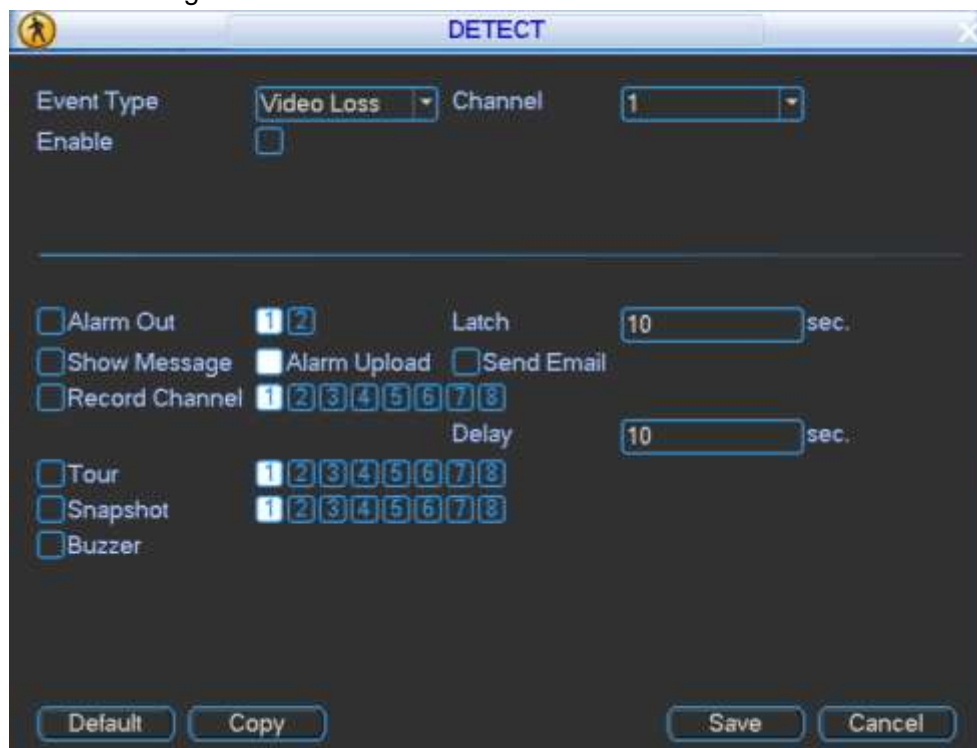

Figure 4-45
Step 1 From Main menu->Setting->Event->Video Loss to set video loss item and enable this function. See Figure 4-45.